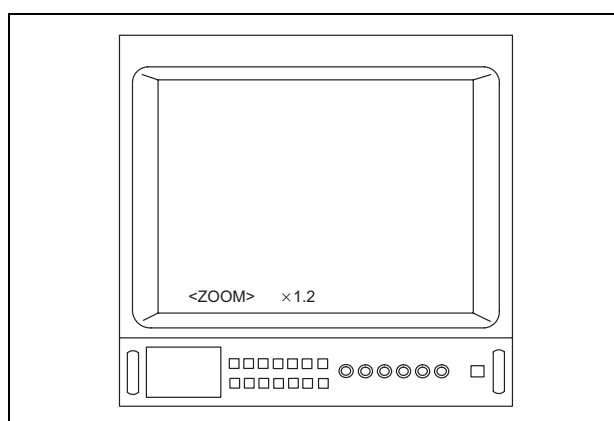

Figure 5.69
2. Pressing the switch toggles between 1.0 × magnification and 1.2 × when using the ENF-V, CYF-V/VA or HYF-V (see Figure 5.69).
The menu shown in Figure 5.69 appears when the electrical magnification is 1.2 ×. Depending upon an electrical magnification, the menu shown in Figure 5.69 may appear different from that displayed on the video monitor.
3. Each time the switch is depressed, the zoom cycles through 1.0 × magnification, 1.2 ×, 1.5 × and 2 × when using a camera head or videoscope other than those described in step 2. (see Figure 5.69).
1. Press the “F7” key. Pressing this key toggles between 1.0 × magnification and 1.2 × when using the ENF-V, CYF-V/VA or HYF-V (see Figure 5.69).
2. Each time this key is depressed, the zoom cycles through 1.0 × magnification, 1.2 ×, 1.5 × and 2 × when using a camera head or videoscope other than those described in step 1. (see Figure 5.69).